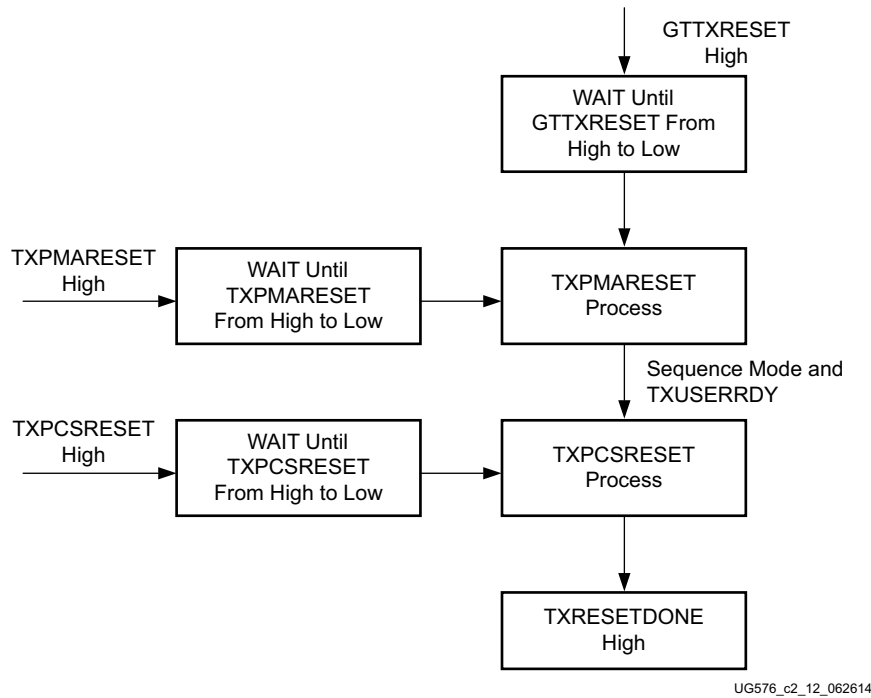

Figure 2-19: GTH Transceiver TX Reset State Machine Sequence
- Sequential mode: The reset state machine starts with an initialization or component reset input driven High and proceeds through all states after the requested reset states in the reset state machine, as shown in Figure 2-19 for the GTH transceiver TX or Figure 2-24 for the GTH transceiver RX until completion. The completion of sequential mode reset flow is signaled when (TX/RX)RESETDONE transitions from Low to High.
The GTH transceiver TX uses a reset state machine to control the reset process. The GTH transceiver TX is partitioned into two reset regions, TX PMA and TX PCS. The partition allows TX initialization and reset to be operated only in sequential mode, as shown in Figure 2-19.
The initializing TX must use GTTXRESET in sequential mode. Activating GTTXRESET input can automatically trigger a full asynchronous TX reset. The reset state machine executes the reset sequence, as shown in Figure 2-19, covering the whole TX PMA and TX PCS. During normal operation, when needed, sequential mode allows you to reset TX from activating TXPMARESET and continue the reset state machine until TXRESETDONE transitions from Low to High.
The TX reset sequence shown in Figure 2-19 is not automatically started to follow global GSR. It must meet these conditions: